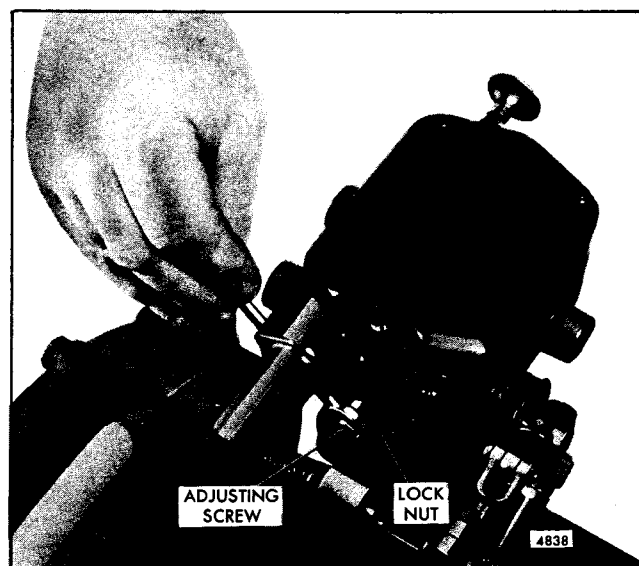

Fig. 5 - Adjusting Maximum No-Load Speed
3. Loosen the lock nut (Fig. 5) and back off the maximum speed adjusting screw approximately $3/8$ ".
3. Turn the maximum speed adjusting screw (Fig. 5) in lightly until contact is felt with the linkage in the governor.